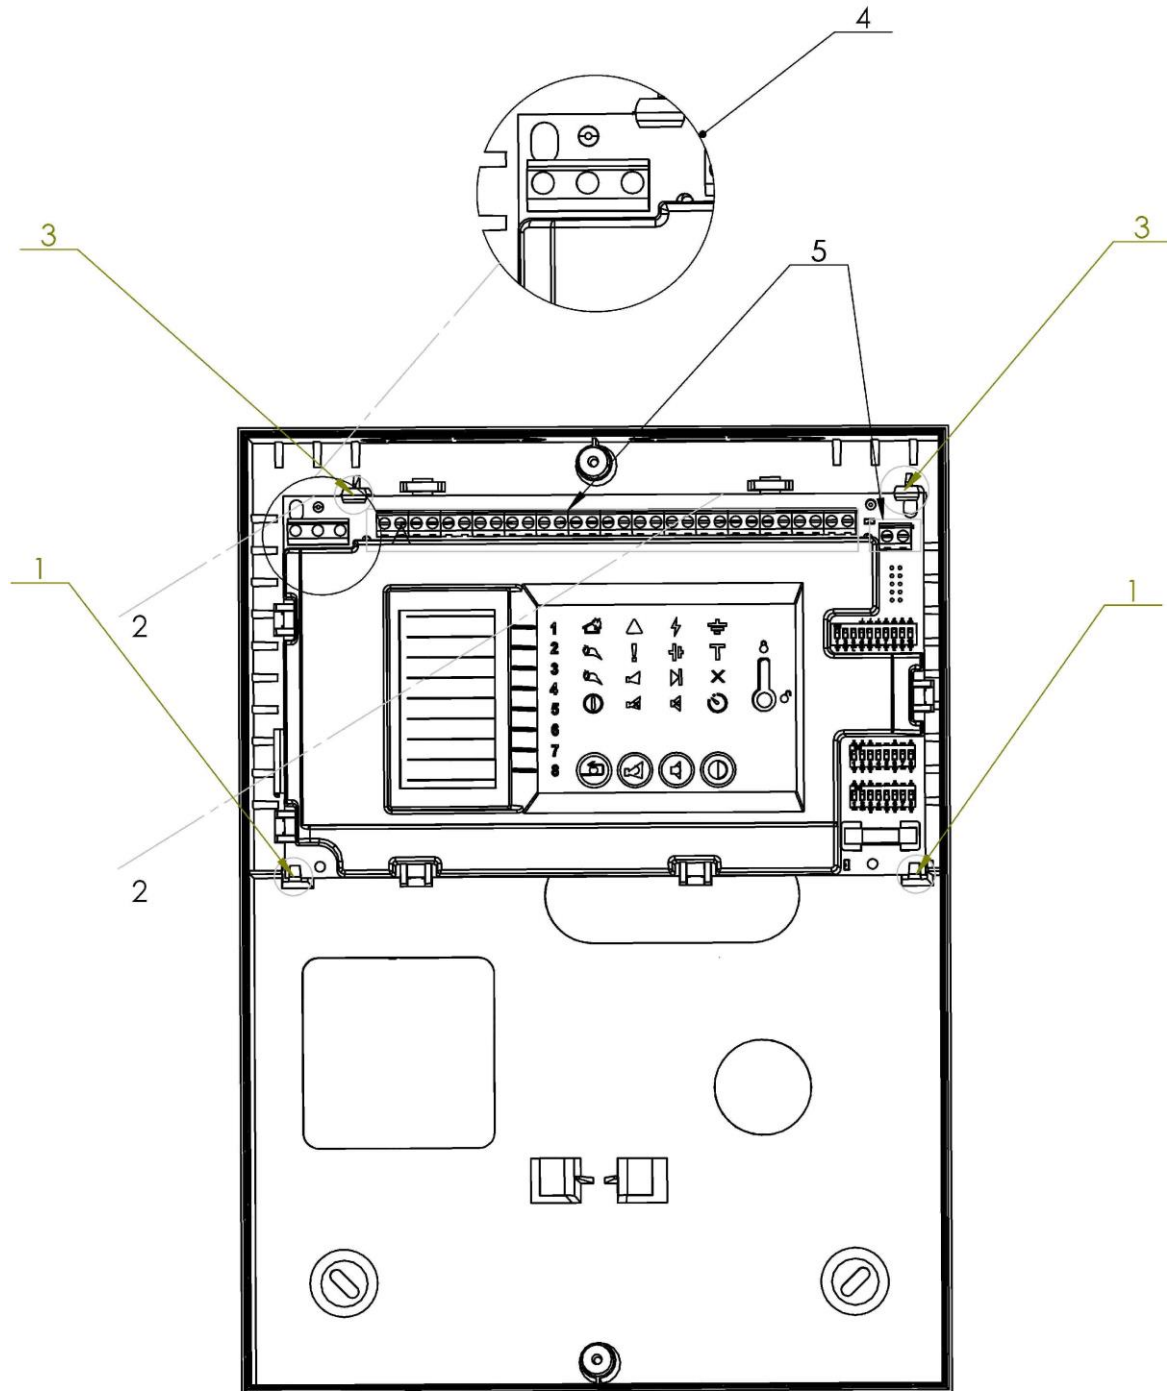

Fig.12
The interface board is put back to its initial position (Fig.12) :
- The bottom side of the interface board is mounted on the holders (fig.12, pos.1);
- The top side of the interface board is pushed until the top-side holders click to fix it (fig.12, pos.3);
- The power line is connected in the PCB connector in FCP (fig.12, pos.4);
- Fully tighten the signal line cables, dedicated to the conventional zones and fire alarm and protection equipment (fig.12, pos.5).